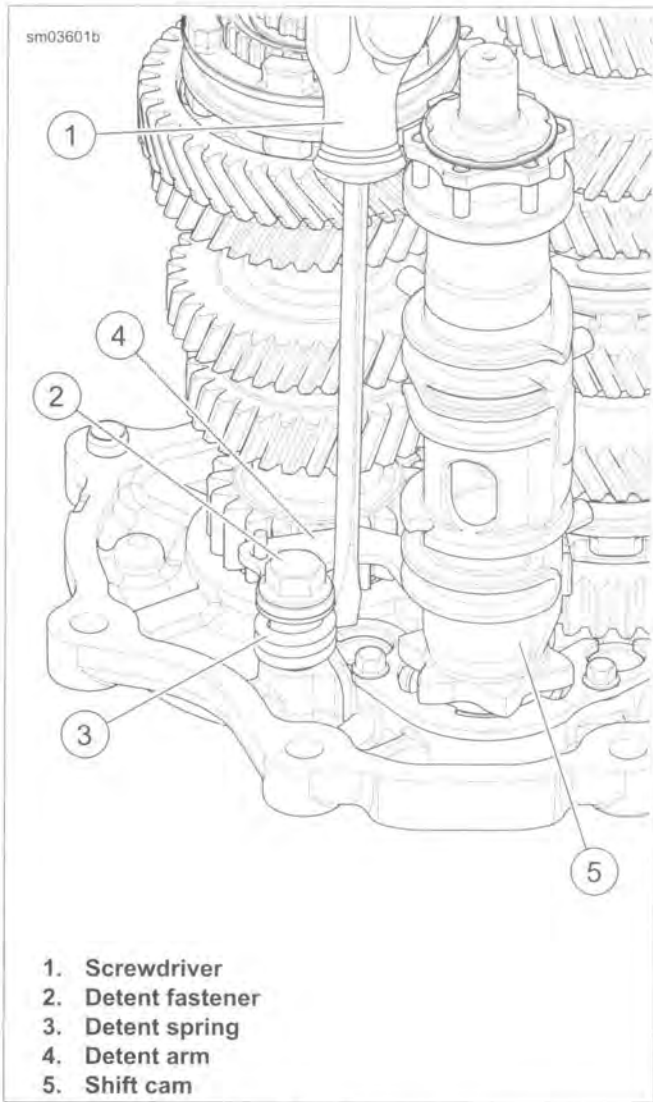

Figure 6-15. Detent Assembly
4. See Figure 6-15. Insert screwdriver and gently pry back detent arm (4) to remove detent spring (3) tension from shift cam (5). Remove shift cam.
5. If servicing detent assembly, remove detent screw (2), detent arm (4), sleeve and detent spring (3). Discard detent screw.